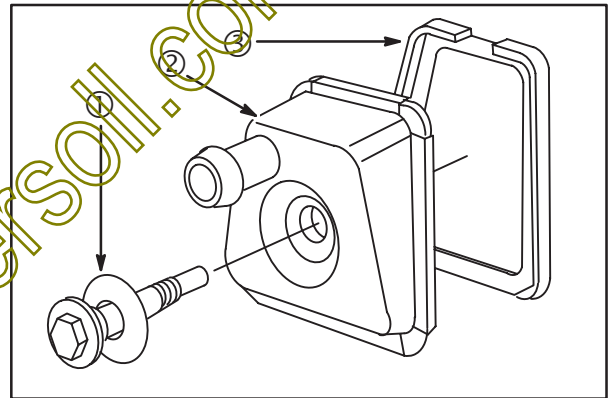

Fig. 8
1. Place breather (2) on gasket (3), **Fig. 8.**
2. Assemble large O-ring (1) onto mounting screw.